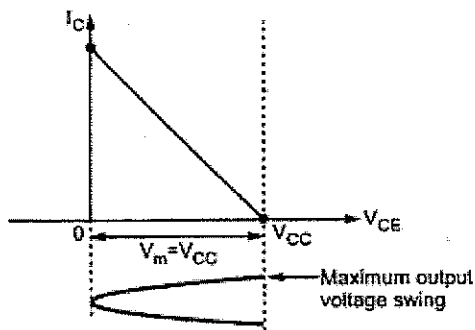

Fig. 3.26
From the equation (7), it is clear that as the peak value of the collector voltage V_m increases, the efficiency increases. The maximum value of V_m possible is equal to V_{CC} as shown in the Fig. 3.26.